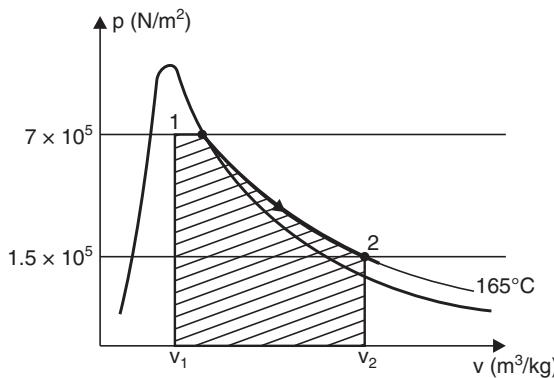

Fig. 2.60
The process is shown in Fig. 2.60. The saturation temperature corresponding to 7 bar is  $165^\circ\text{C}$ . Therefore, the steam is *superheated at the state 2*.
**Note.** The work done is also given by the area on the Fig. 2.60  $\left( \int_{v_1}^{v_2} pdv \right)$ , this can only be evaluated graphically.